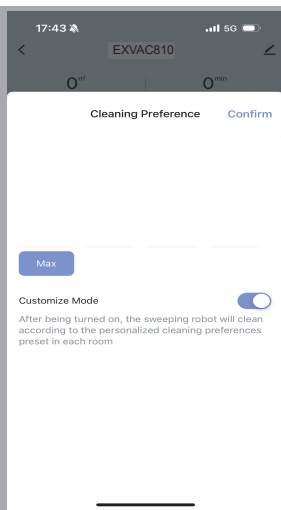

Fig.13
C). Cleaning Preference: click the icon  to set the suction level, and also turn on / off the customized mode (Fig.13).